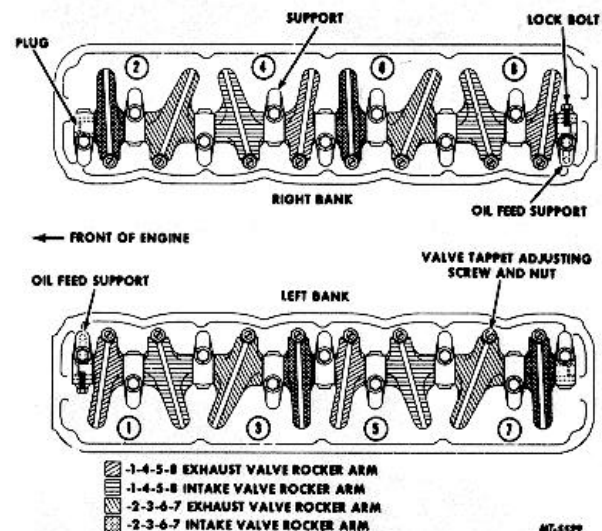

Fig. 138 Rocker Arm Installation
Rocker arm assemblies are removed from engine as a unit. There are four different shapes of rocker arms used in each complete rocker arm assembly. Each rocker arm is stamped with cylinder numbers and the words "INT." or "EX." for identification. Figure 138 illustrates the different types of rocker arms and their locations.
9. Place rocker arms and remaining supports on shaft making sure rocker arm shaft-to-arm oil feed holes are in a downward position. This will properly position rocker arm shaft oil feed holes so that oil feed hole in right rocker arm shaft assembly will be toward the rear, while oil feed hole in left rocker arm shaft assembly will be toward the front. See Figure 138 for correct installation.